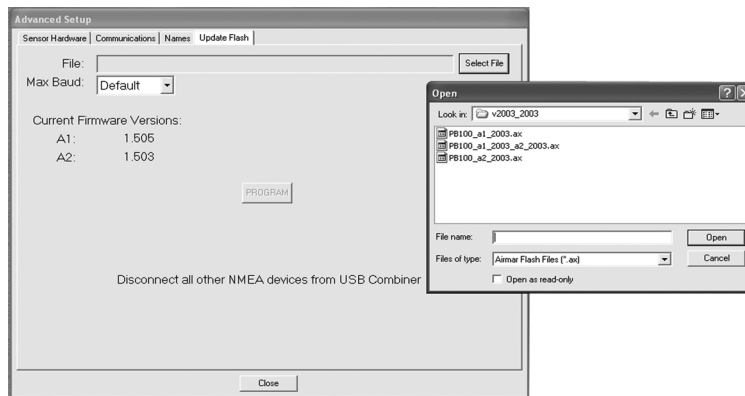

Figure 41. Advanced Setup window with Update Flash tab and Open window
5. Click Select File (see Figure 41). In the Open dialog box, browse to the sensor flash file to be used. The file name will end in ".ax". Click Open.